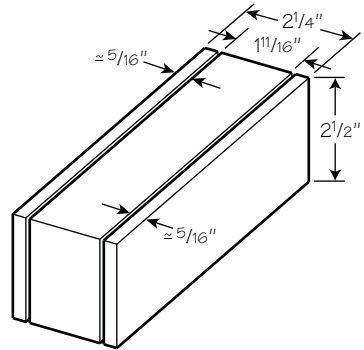

Figure 2: Preparing the blank.
2. Measure and mark the 1 11/16" inner body centered on the blank, as shown in **Figure 2**, then cut outside these lines using a bandsaw to ensure the inner body remains 1 11/16" wide. The remaining side pieces will be approximately 5/16" thick. Remove the machining marks with a plane.